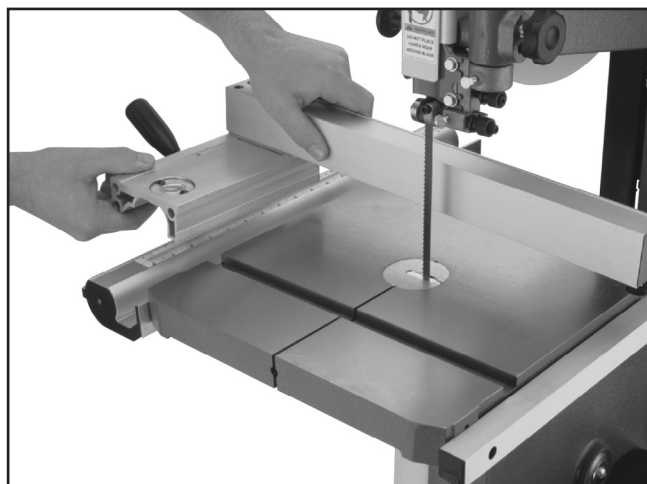

Figure 14. Installing fence onto rails.
21. Pull the fence handle up and place the fence on the front fence rail as shown in **Figure 14**.